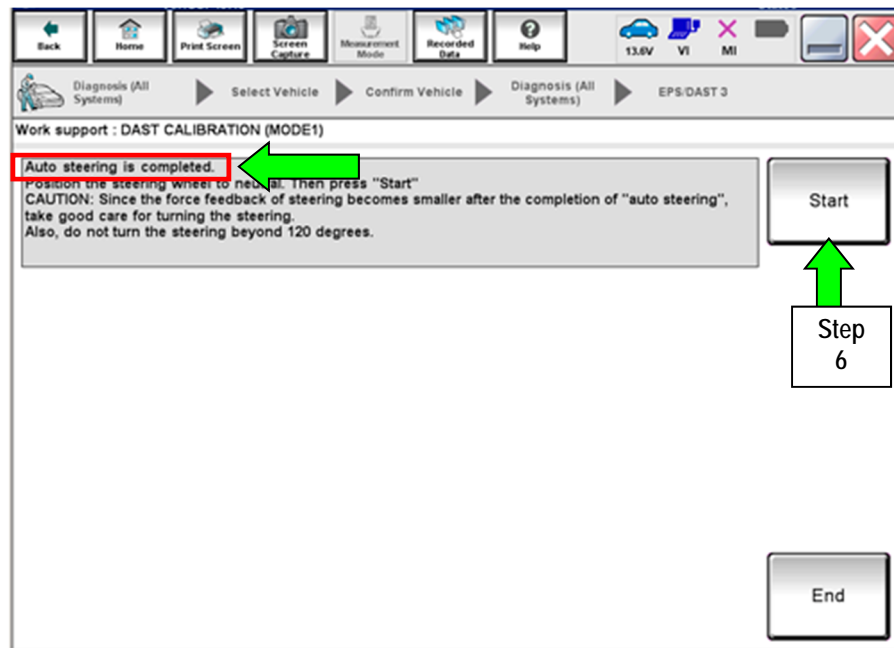

Figure 2
- When Auto steering has completed, center the steering wheel to the neutral (straight ahead) position, and then select **Start** again (see Figure 2).